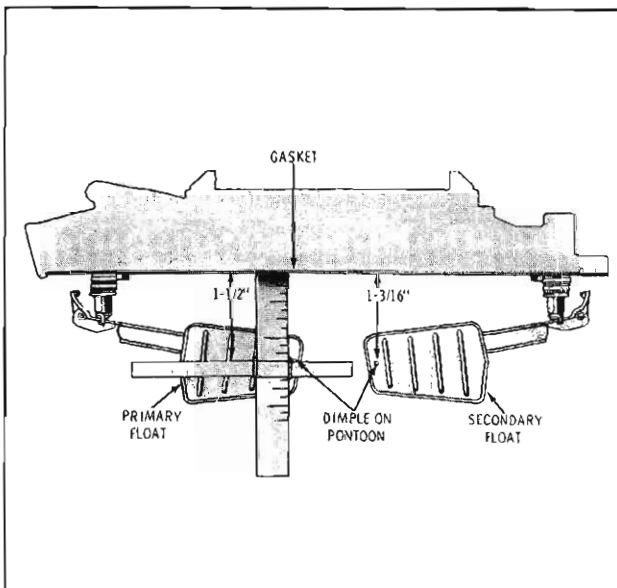

Fig. 4-21 Adjusting Vacuum Assist Spring
3. If an adjustment is necessary, bend the tang under the vacuum assist spring and retainer as indicated in Fig. 4-21.